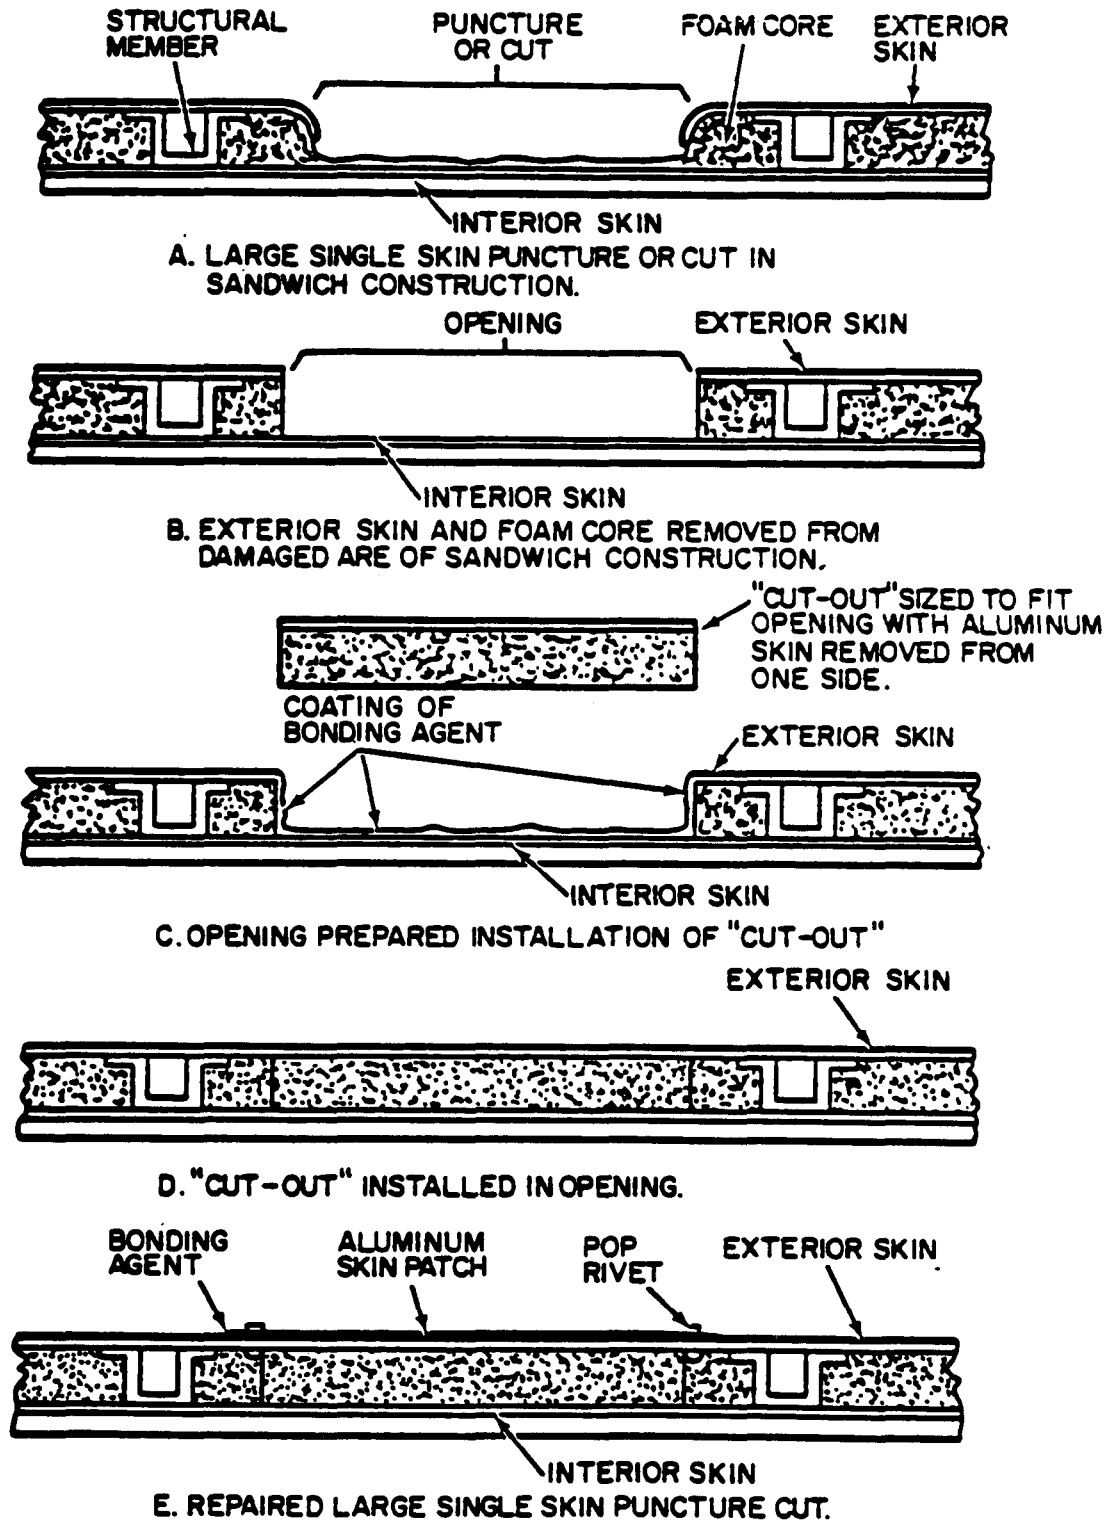

Figure 4-5. Shelter Wall Repair of Large Skin Puncture or Cut.
Repair. (Figure 4-5)
- (1) Select an aluminum skin patch that overlaps the puncture or cut by one inch in all directions.
- (2) Use the aluminum skin patch as a template positioned over the puncture or cut, and lightly scribe the area of the aluminum skin patch on the skin of the shelter.
- (3) Use a saw to cut and remove the punctured or cut skin area approximately one inch within the scribed mark (A and B, Figure 4-5).
- (4) Cut the foam core evenly along the edges where the skin is removed and remove the damaged foam core (B, Figure 4-5), maintaining perpendicular and straight edges.
- (5) Select a piece of block insulation or a cutout of the same type sandwich construction (C, Figure 4-5).
- (6) Size the block insulation or cutout to fit the opening where the skin and foam were removed. If a cutout is used, remove the aluminum skin from one side of the cutout.
- (7) Remove all paint or foreign matter from the overlap area on the skin of the shelter and an area approximately one inch around the scribed mark using emery cloth and cleaner. If the cutout is used, remove all paint or foreign matter from the aluminum skin of the cutout.
- (8) Roughen the skin surface with coarse grit emery cloth. If a cutout is used, roughen the surface of the aluminum skin.
- (9) Coat the interior of the opening where the skin and foam core were removed with mixed adhesive (paragraph 4-7.b.(4)).
- (10) Insert the block insulation or cutout into the opening where the skin and foam core were removed (D, Figure 4-5).
- (11) With the aluminum patch over the puncture area, drill #30 holes, around the perimeter of the patch, 1/2 inch from edge of patch and on one inch centers.
- (12) Coat the exposed block insulation or cutout and the overlap area with mixed adhesive.
- (13) Dip the pop rivets in the mixed adhesive and use the riveting tool for pop rivets to install the aluminum skin patch as shown (E, Figure 4-5).
- (14) Smooth and taper mixed adhesive (squeezed out during the riveting process) along the edges of the aluminum skin patch and immediately remove excess mixed adhesive with cloth saturated in toluene solvent.
- (15) Prime and paint the repaired surface. (Refer to paragraph 4-12.)
- (16) Inspect the repaired area to ensure that rivets and paint were applied correctly.